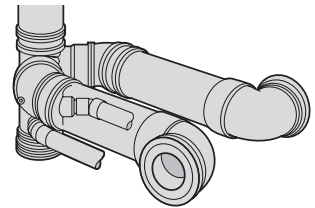

Fig.32a 106.490.12 Corner Boss Branch installation
**106.490.22 Corner Boss Branch** (socket outlet) (Fig.32a) OR
- Use as Fig.32a with 135° bends. Can connect single or a range of WC's on each 110mm branch. Lower bosses can connect two 50mm waste pipes directly to sockets or 40 and 32mm pipes using appropriate reducers